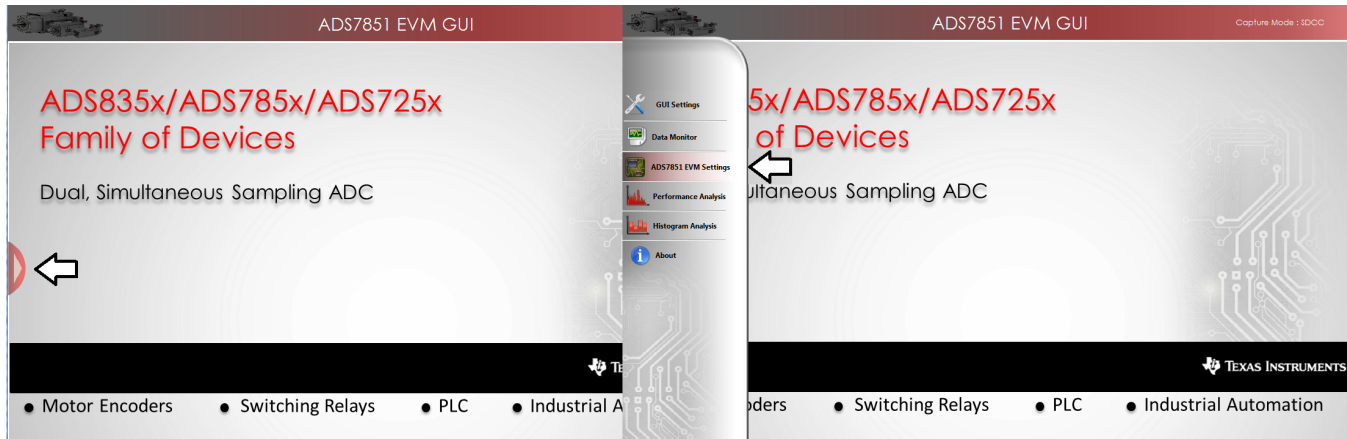

**Figure 14. GUI Display Prompt**
- Step 3. Verify that the software detects the ADS7851EVM. The GUI identifies the EVM hardware that is connected to the controller board and displays *Loading the ADS7851evm Settings*. After the settings are loaded, *ADS7851EVM GUI* displays at the top of the GUI screen, as shown in Figure 14.